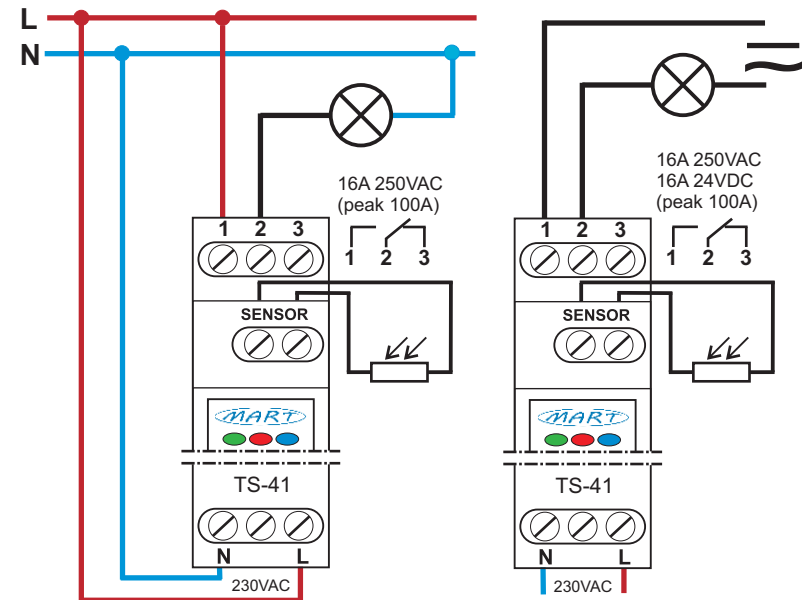

Fig. 2. : Connection diagrams for the TS-41-3.3 TWILIGHT SWITCH automatic device.
3. Connect the wires in accordance with the diagram (fig. 2)